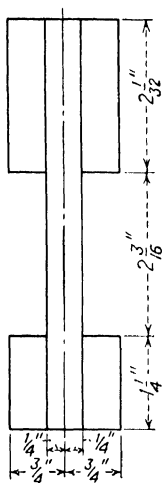

Fig. 124.—Front spar, airplane wing.
10-11. Make full-scale drawings of the layout of the airplane wing spars, in Figs. 124 and 125.
12. Find the over-all dimensions of each of the spars in Figs. 124 and 125.